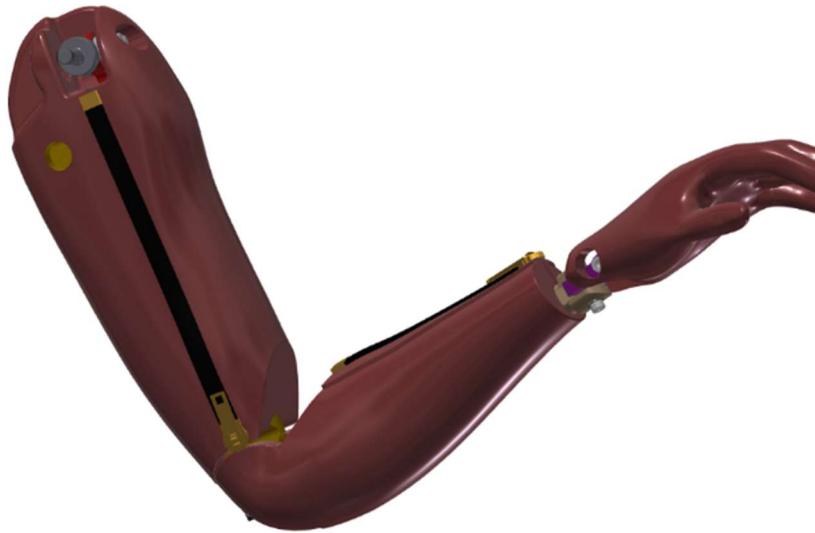

Figure 11-5. Unzip the Upper Arm Flesh
11.2.2 Unzip the Upper Arm Flesh (484-6120) (Figure 11-5).